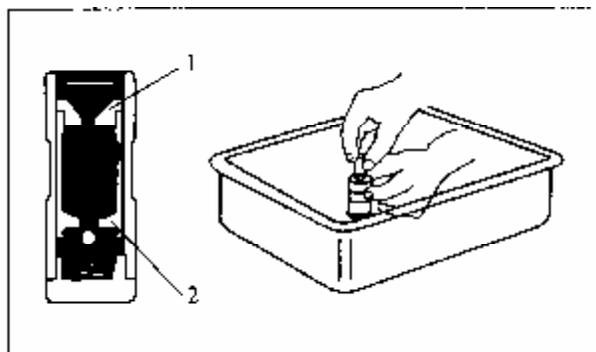

Figure 3-43 Discharge air from tappet
**3.4.10** Before installing valve tappet onto gasoline engine, discharge the air its inner chamber first and recheck to ensure air is discharged completely. The methods are as follows (see Figure 3-43):